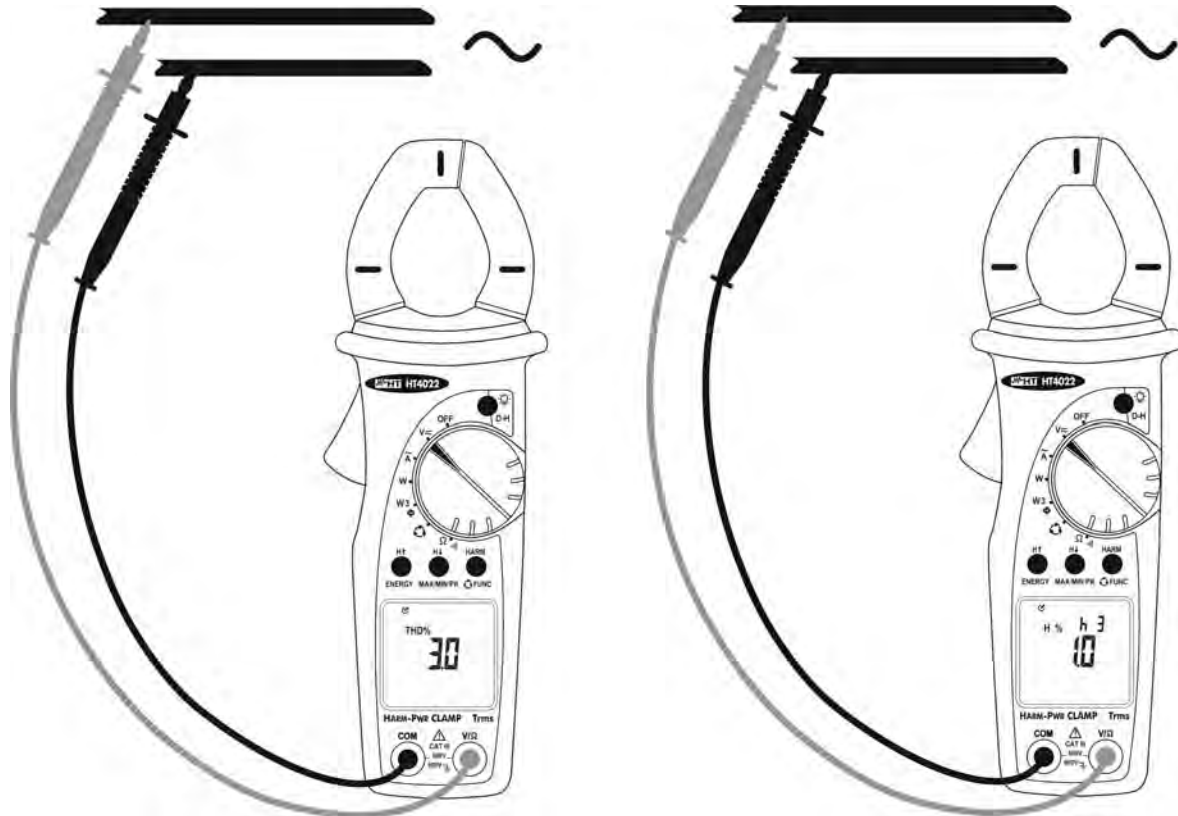

Fig. 6: Use of instrument for AC voltage harmonic measurement
4. Connect the test leads to the circuit under test (see Fig. 6). The instrument displays the Total Harmonic Distortion value of the input signal. The symbol “THD%” is shown on the display. See § 8 for the parameter’s definition